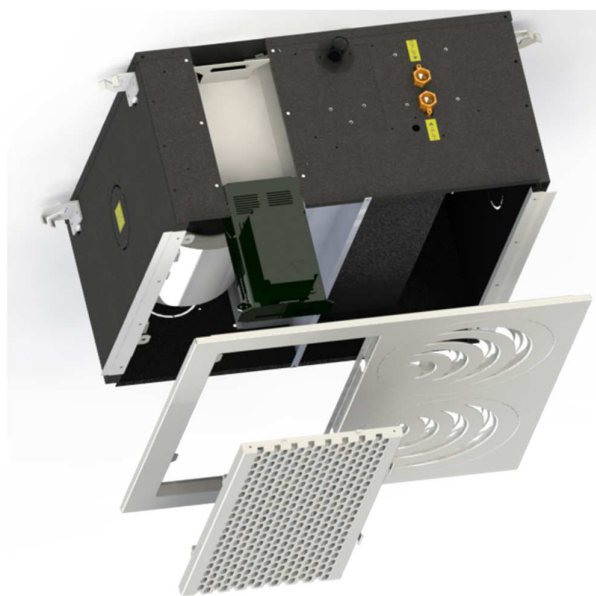

Figure B.13.2
- Slide the control box into the unit casing. (Figure B.13.2)